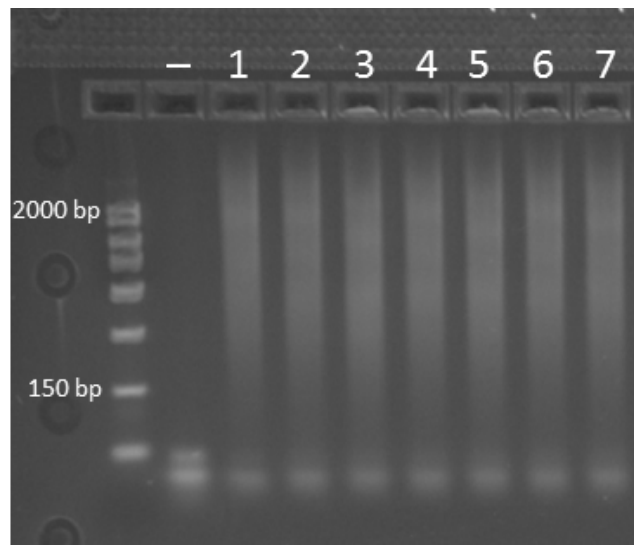
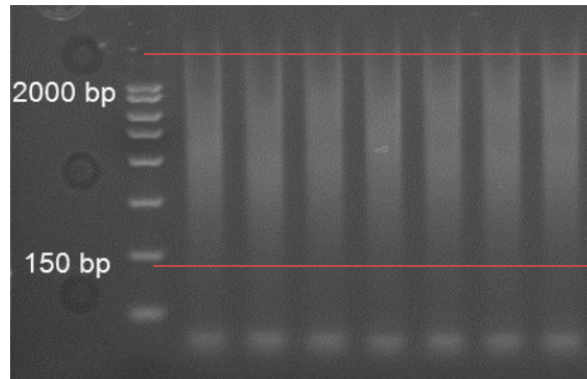

Figure 23 Example PCR gel image on 2% agarose gel with negative control.
Figure 24 Example PCR gel image on 2% agarose gel.
8. Follow manufacturer’s instructions to run gel that meets requirements (Figure 23 and Figure 24).